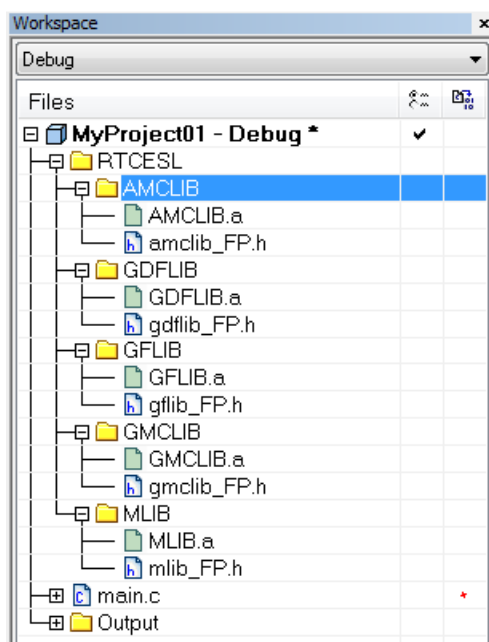

Figure 1-40. Project workspace
4. Click on the newly created node MLIB, and go to the main menu Project > Add Files... See Figure 1-40.
23. Now you will see the files added in the workspace. See Figure 1-40.